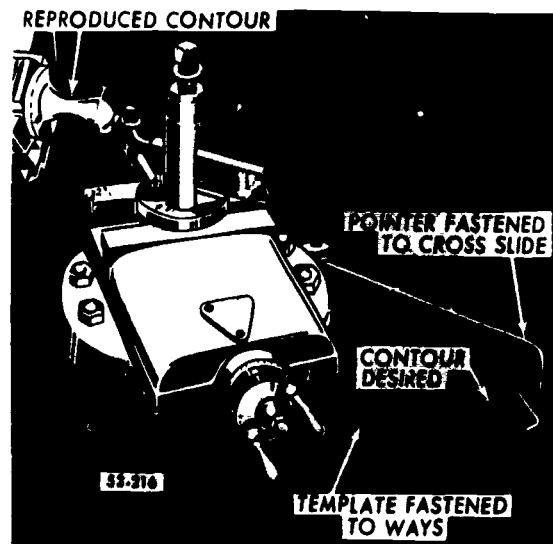

Figure 5-12. Template and pointer.
**Template and pointer.** In this method of radius and form turning, you lay out the full-scale form of the work on a piece of thin sheet metal. Then clamp the template to the bed of the lathe. Attach a pointer to the lathe cross-slide and, by hand manipulation, follow the scribed outline on the template to produce the form on the work. You will probably have to finish the form by filing and polishing. Figure 5-12 shows a template and pointer being used to produce a contoured surface.